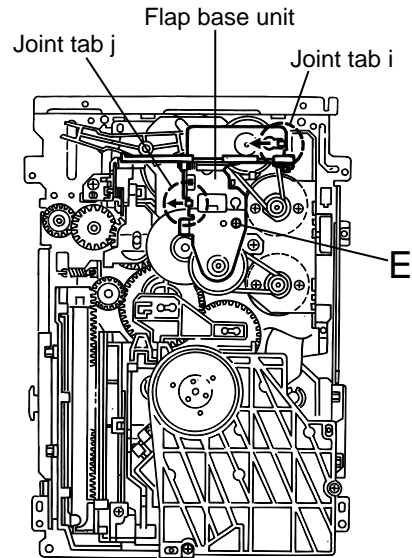

Fig.13
■ **Removing the flap base unit and the gear base unit (See Fig.13 and 14)**
• Prior to performing the following procedures, remove the servo control board, the top cover, the tray unit, the side unit (L) and the side unit (R).